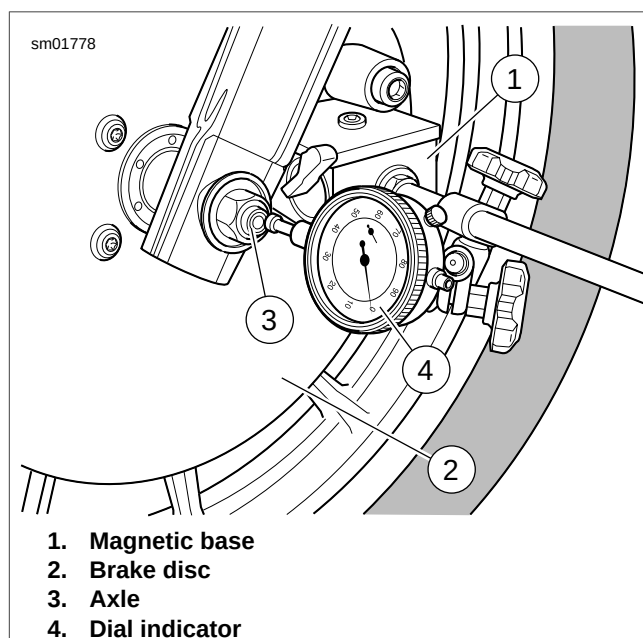

Figure 2-4. Check Wheel Bearing End Play
2. See Figure 2-4. Check wheel bearing end play.